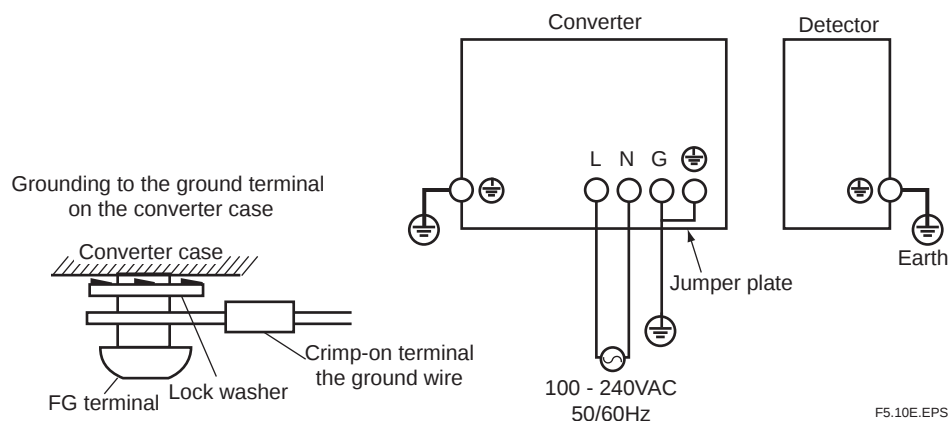

Figure 5.10 Power and Grounding wiring
- (1) Keep ground resistance to 100Ω or less (JIS Class 3 ground).
- (2) When the ambient temperature of the wiring installation is 80 to 150° C for the wiring of the detector, use wiring material with sufficient heat resistance.
- (3) When connecting the ground wiring to the ground terminal of the converter case, be sure that the lock washer is in contact with the case surface (see Figure 5.10.).
- (4) Ensure that the jumper plate is connected between the G terminal and the protective ground terminal of the converter.